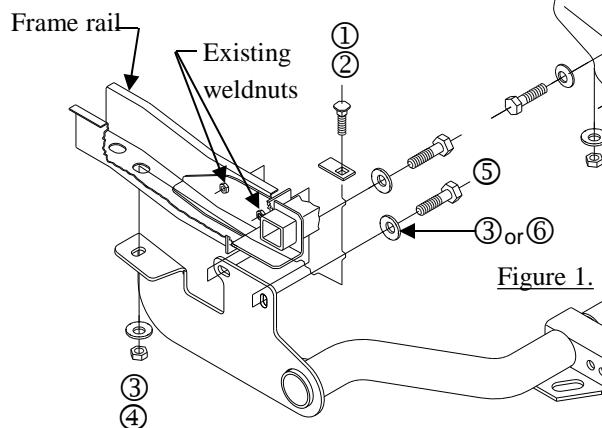
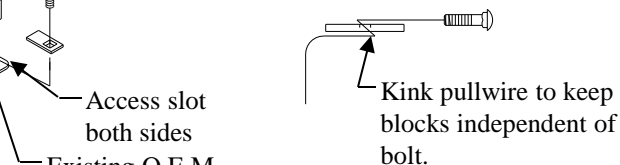

Figure 1.
Figure 2.
Installation for vehicles with O.E.M. Class 2 Integrated Hitch/Bumper. (Figure 1) – Without O.E.M. hitch, see next page (figure 4)
4. Using the pullwire feed carriage bolts and blocks thru access slot in end of the frame as shown in Figure 1. Using the kink pullwire to keep block independent of bolt (See Figure 2). Feed the pullwire thru the existing slot and hitch.